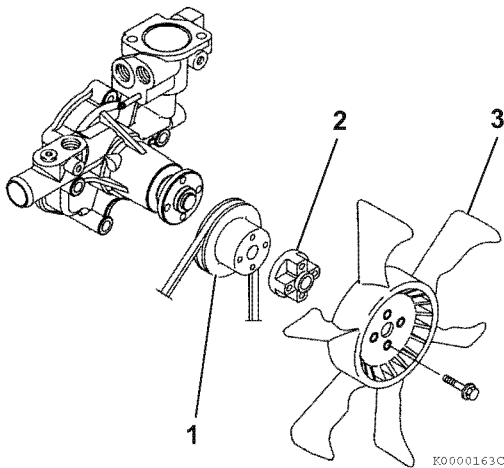

Figure 9-4
1. Remove the engine cooling fan guard (if equipped), engine cooling fan (3, **Figure 9-4**), spacer (2, **Figure 9-4**), engine coolant pump V-pulley (1, **Figure 9-4**) and V-belt.